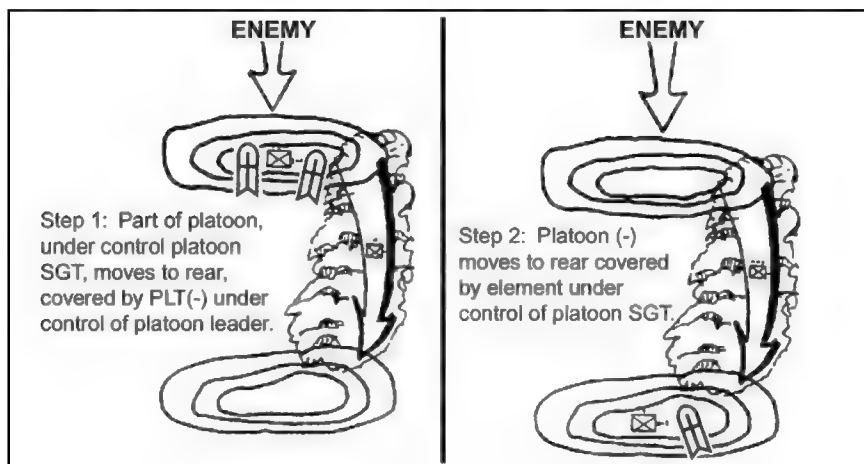

Figure 4-6. Withdrawal under enemy pressure.
(1) ***Withdrawal Under Enemy Pressure.*** Enemy pressure makes withdrawing more difficult than it would be otherwise (Figure 4-6). The platoon must employ fire and maneuver to fight its way away from the enemy. To ensure continuous antiarmor coverage, both covering and maneuvering elements must have Javelins.